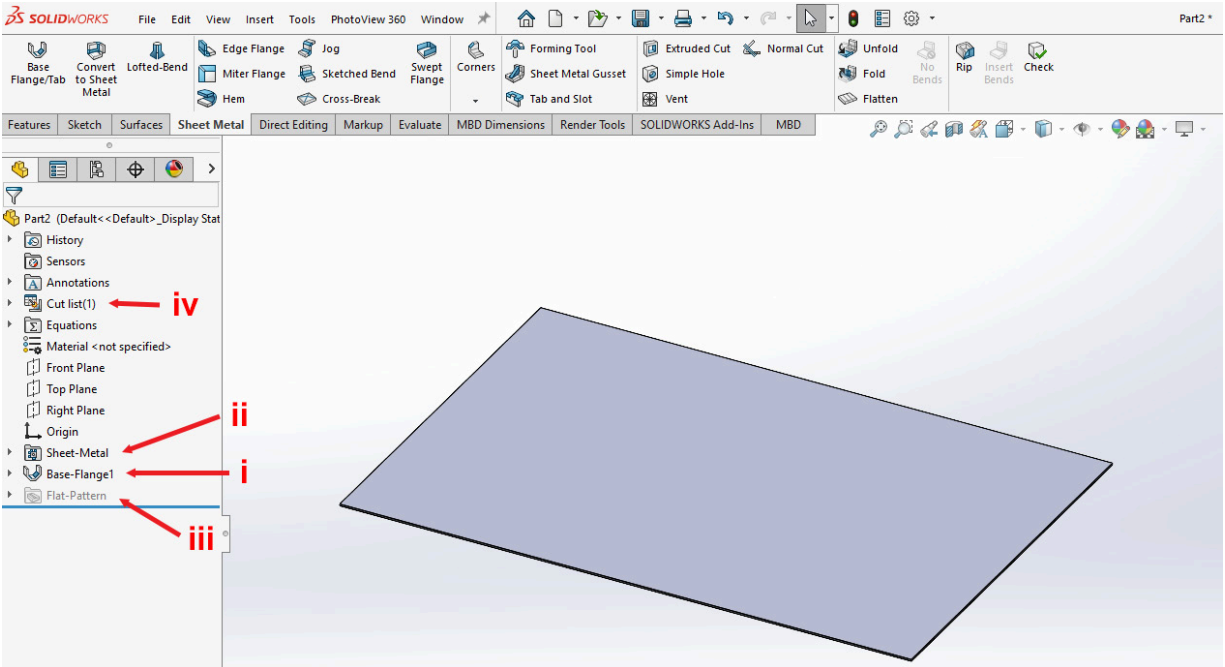

Figure 1.7: Sheet Metal part details
The **Base Flange** feature is now created, and **Base-Flange1** (note: your number may differ) appears in the FeatureManager Design Tree at the left of the screen (labeled **i** in *Figure 1.7*). This feature can be edited and adjusted in the usual way by left-clicking on the feature and selecting **Edit Feature**.
- **Sheet -Metal** folder: This contains all of the global properties of your Sheet Metal *part*, such as the **Thickness** and the **Bend Radius** properties (labeled **ii** in *Figure 1.7*).
- **Flat -Pattern** folder: This folder contains a flattened version of the *part* (labeled **iii** in *Figure 1.7*). By default, this folder will be suppressed, so it will appear grayed out at this stage, but this will be covered in more detail later in the chapter.
The number in brackets after the folder name indicates how many sheets make up the *part*. For example, a *part* with two separate body and lid sheets would show **(2)** after the **cut list** folder (labeled **iv** in *Figure 1.7*).
To edit the **Sheet Metal** properties of a *part*, simply left- or right-click on the **Sheet-Metal** folder in the FeatureManager Design Tree (labeled **ii** in *Figure 1.7*) and select **Edit Feature**.